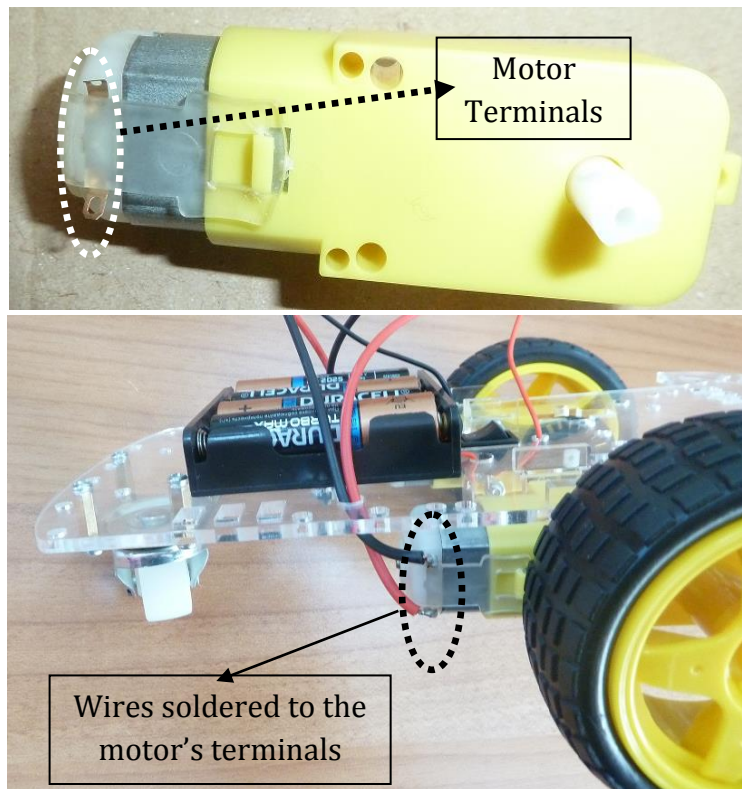

Figure 10
- Move to the construction of the electric circuit by connecting the power supply to the motors and the on-off switch. Have student teams use the soldering iron and solder to attach the red and black wires to the motors (Fig. 10).